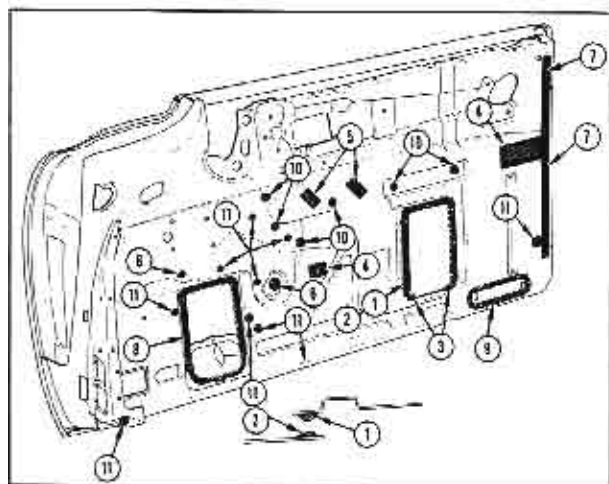

Fig. 3-15 Door Inner Panel Sealing
When following the procedure, refer to Fig. 3-15, in which the areas to be sealed are numbered to conform to the numbered steps in the procedure.
2. Apply ribbon of medium-bodied sealer to lower side flanges of loading hole cover before it is installed. This seal should extend upward approximately three (3) inches.
3. After loading hole cover is installed, seal lower corners of plate at offset with medium-bodied sealer, Fig. 3-15.